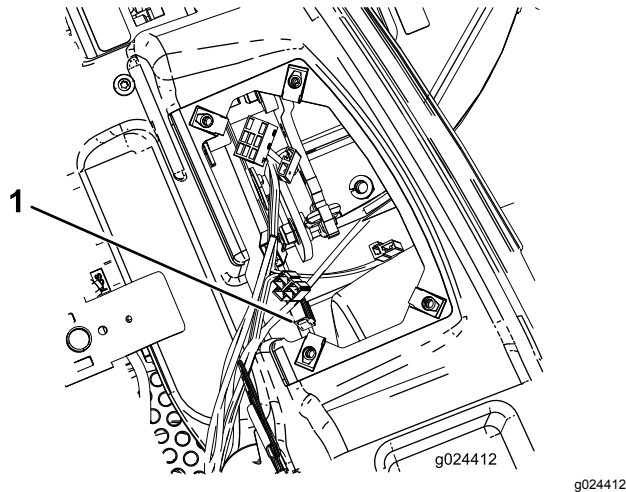

Figure 48
3. Grasp the engine fuse and pull it straight and away from the fuse block (Figure 48).